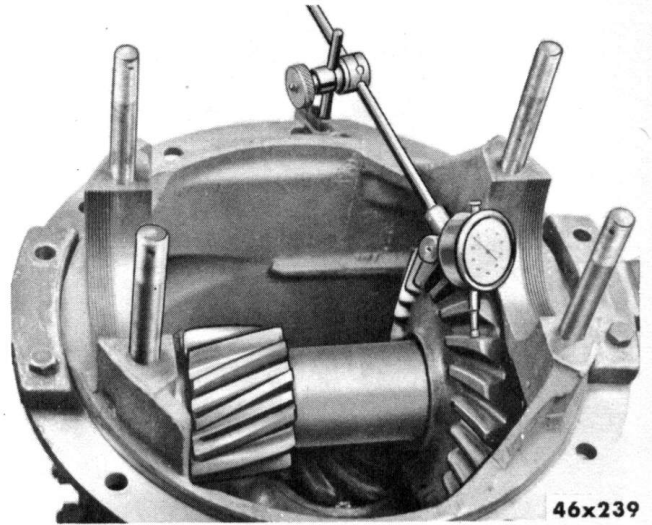

Fig. 129—Dial Indicator Used to Determine Gear Lash
- (2) Install original shim pack over gasket.
- (3) Install pinion cage assembly, lock washers and stud nuts. Tighten to the correct torque.
- (4) If bevel gear set has been renewed, check gear lash with dial indicator (Fig. 129) and adjust to obtain .006 to .012 inch lash.